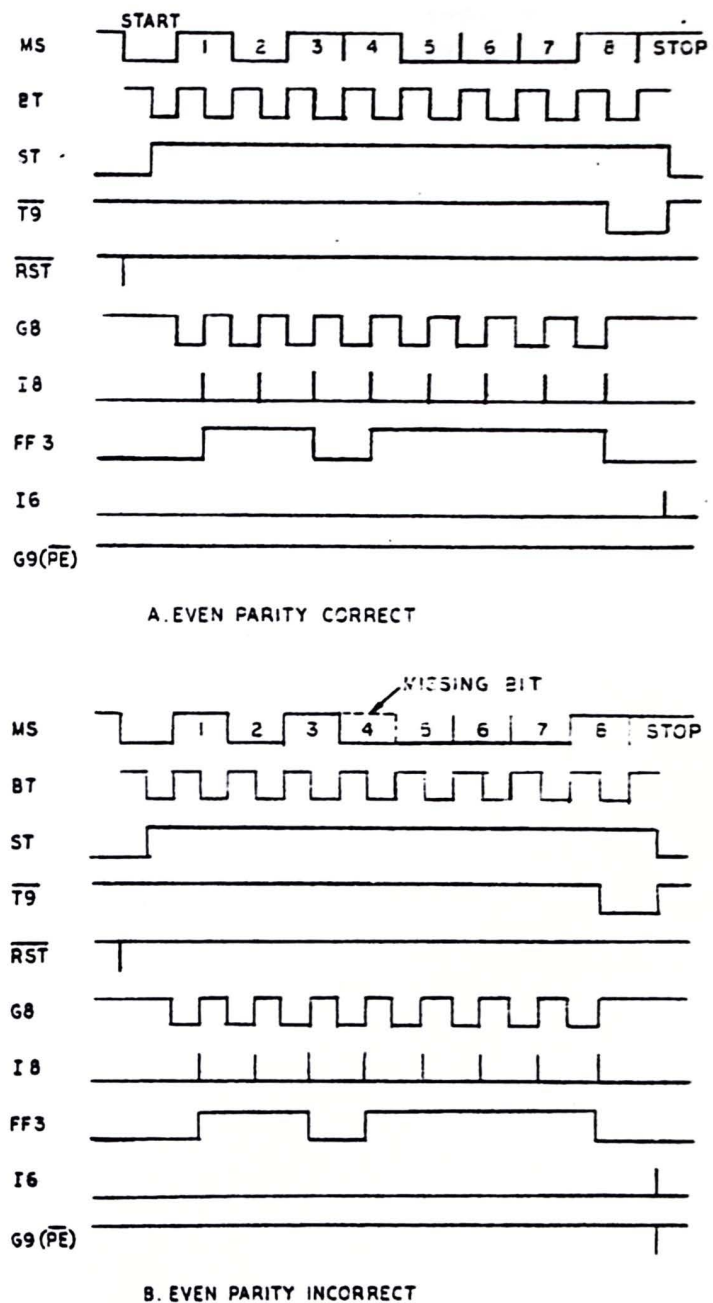

Fig. 22 - Parity Error Timing
### Parity Error Circuits (Fig. 22 and 33)
### Even Parity (Fig. 22 and 33)
### Odd Parity (Fig. 22 and 33)
3.65 The circuit function is the same as that described above except the 0-output of FF3 enables or disables G9 (Fig. 22). An even number of Mark elements in MS, therefore, produces a PE pulse and an odd number of Mark elements does not.
### Parity Error Indicator Lamp (Fig. 22 and 33)
Reset Signal RST (Fig. 22 and 33)